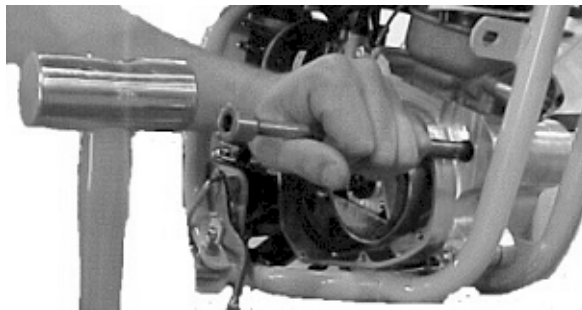

Figure 39
10. Heat engine case around area of impeller lightly with a small propane torch. Using a 3/8" diameter x 8" long steel rod, tap impeller assembly out of engine as shown in figure 39.